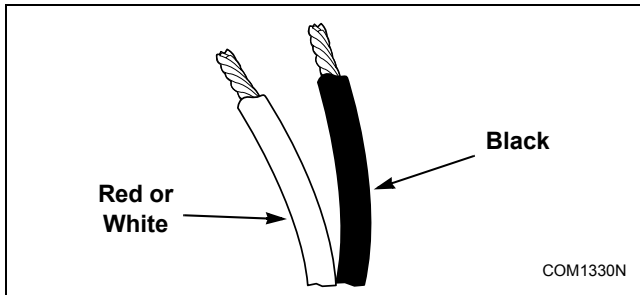

Figure 5
- Carefully strip 1/4 inch of the insulation from the twisted pair wire. Refer to *Figure 5*. If too little insulation is stripped, and insulation is inside the connector, the network will not communicate. If too much is stripped, the wires will short.